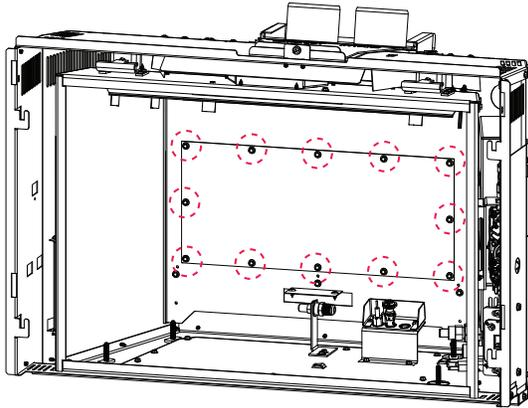

Fig. 7-4
- D. Remove the first blower access panel by removing the 12 screws (**Fig. 7-4**).